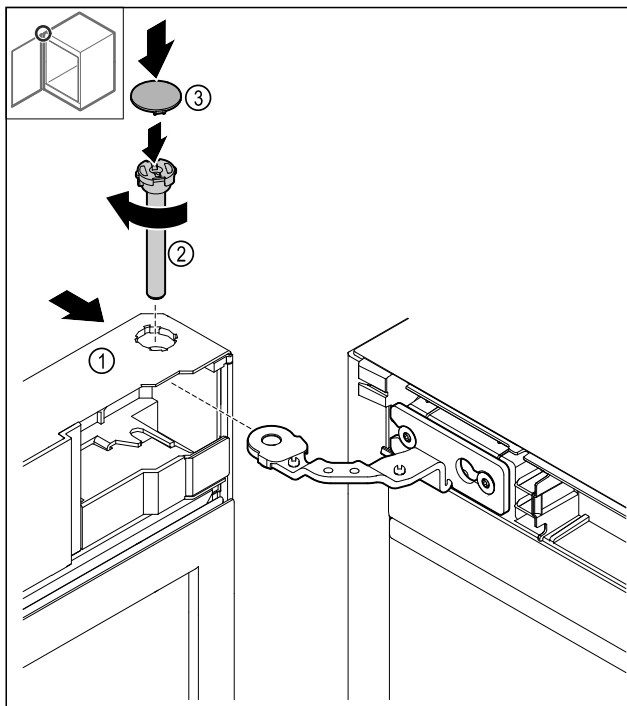

Fig. 38
- Slide the door Fig. 38 (1) onto the top hinge.
- Insert the bolt Fig. 38 (2) and turn it clockwise to tighten.
- Put on the cover Fig. 38 (4).